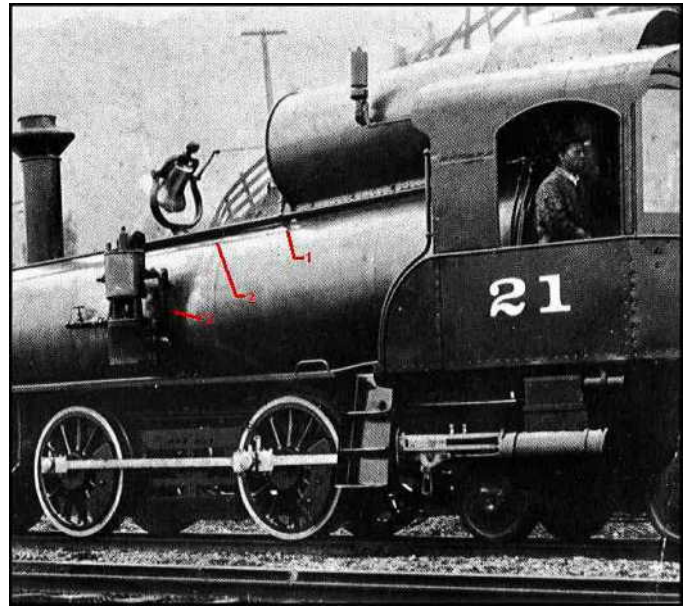

Figure 1
As I said, I've agonized over how this thing was hooked up for many months now. I've gathered opinions from many people, including David Fletcher. The problem is the lack of clear photos; so much is left to educated guesswork. The steam input line and the exhaust were the problem. In the following photo, which I'll call Figure 1...
The exhaust seems to head down behind the airline, but deep shadows make it unclear where it actually ends (see (3) in Figure 1). This last photo finally convinced me with reference to the exhaust line...
On to the steam supply line where similar problems are faced due to a lack of good photos and information. Figures 1 and 2 were my only real sources of info here. Referring to Figure 1, the shadow under the handrail (2) made it appear to me that the steam line ran above it, probably to the cab. However, even more careful scrutiny exposed the little bit of light just to the right of the handrail stanchion (1). Could it come from the globe valve on the rear of the weird steam collection cylinder atop the boiler? I can also see what might be part of an elbow on the bottom of the globe valve.
Figures 1 and 2 ultimately led me to conclude that the steam supply line comes off the cylinder globe valve, runs aft horizontally above the handrail, then down on the left side of the pump, through a tee, then aft through a second globe valve and into the smoke box. I'm not sure why it's connected to the smokebox, but after months of staring at these photos, it's the only thing that seems to fit what I see.